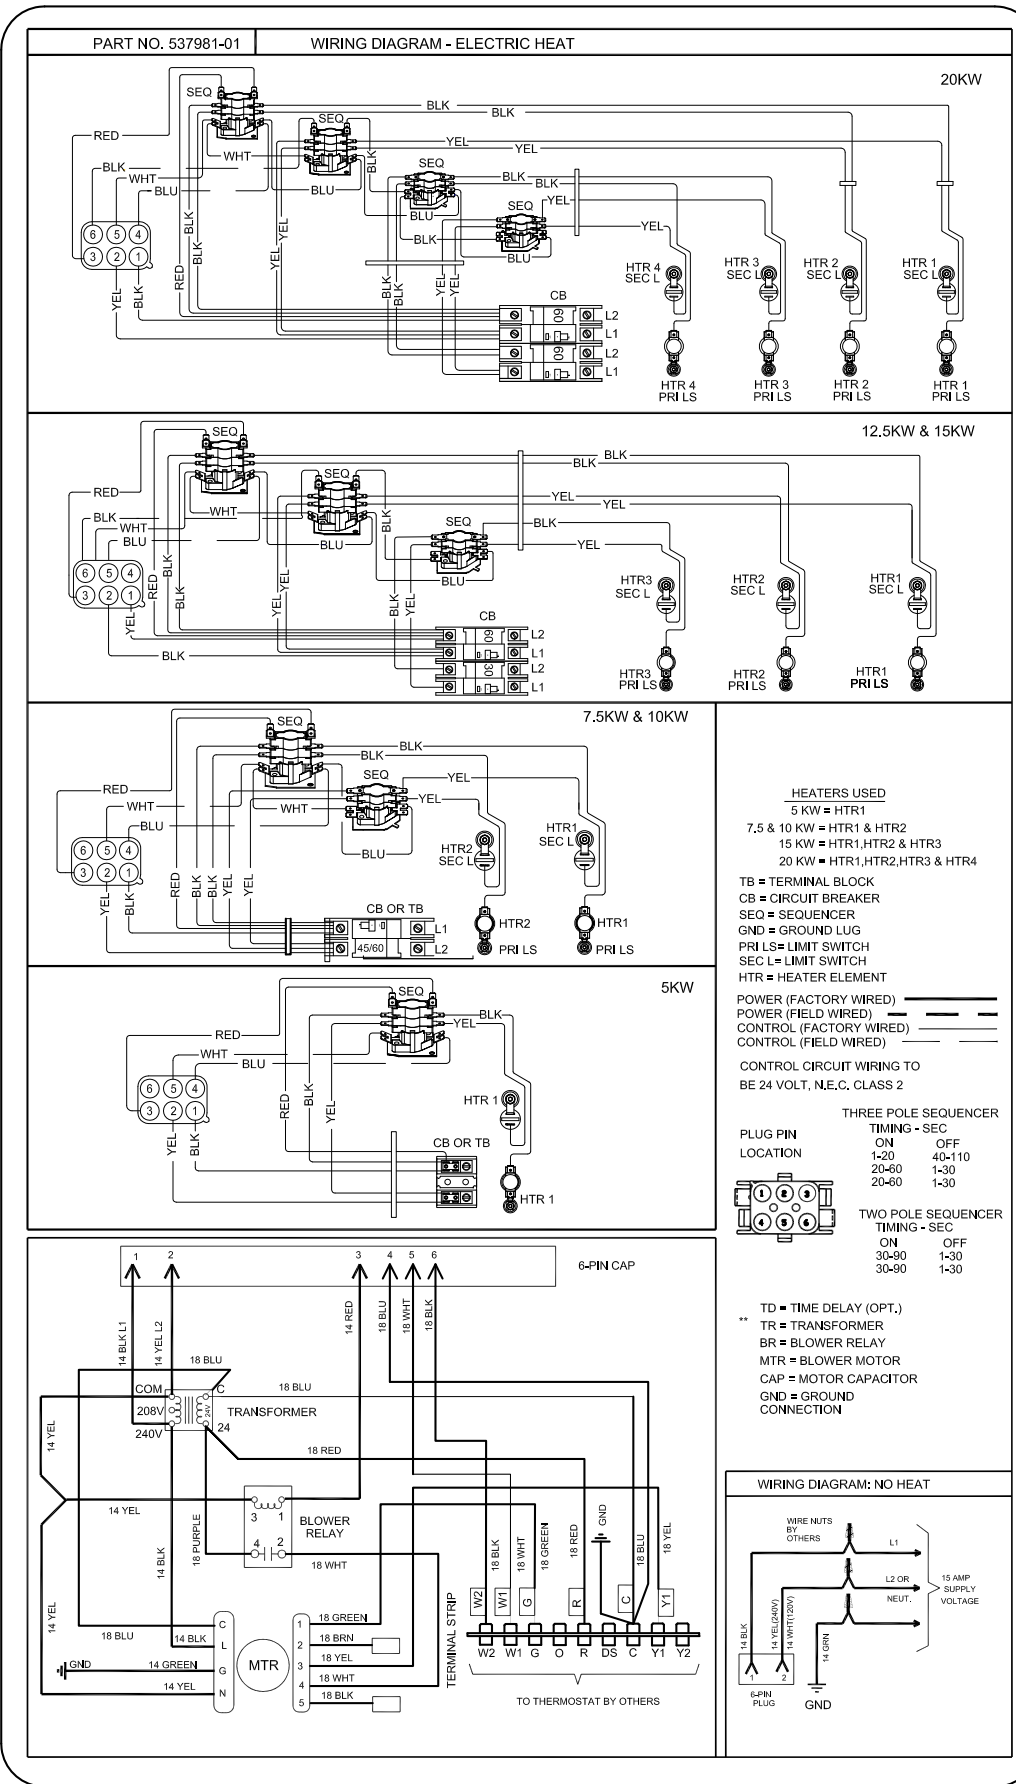

Figure 14. Typical Wiring Diagram – HMGX*P Air Handler with Electric Heat – (Constant Torque Motor)
- Typical unit wiring (as well as wiring of optional field-installed electric heat) is given in Figure 14. Refer to the instructions provided with the electric heat section for proper installation.